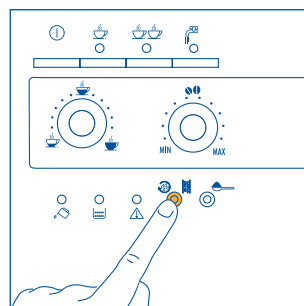

Fig. 14
1) *If, when the machine has just been turned on, a short cup of coffee is required (less than 2 oz), use the hot rinsing water to pre-heat the cups (see suggestion in section 4.3, point 5). If, on the other hand, more than 2-3 minutes have elapsed since the last coffee was made, before preparing another coffee the infuser must be pre-heated, pressing the  button (Fig. 14).*